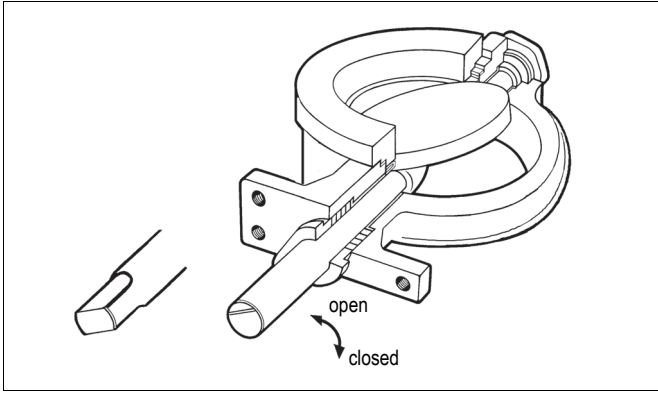

Fig. 12 Open and closed positions of the valve
- Check the adjustment in the closed position (see Section 6.4). The marking line parallel to the disc on the valve shaft head shows roughly the closed position of the disc (see Fig. 12).
- Centre the seat ring (4) carefully into its groove and turn the disc to maintain light contact with the seat.
- Mount the clamp ring and tighten the screws (27) lightly.
- Tighten the screws (27) evenly. An unevenly tightened flange may damage the seat ring. The screw heads must be below the flange surface in lug type valves.
- Check the position between the seat ring and the disc. The valve closes clockwise (see Fig. 12).
- Press the shafts into the disc drillings. Align the pin holes. The shaft (11) position against the disc must be according to Fig. 12.
- Install the body seal (19) and the clamp ring (2). See details in Section 5.4.
- Check the contact line between the seat ring and the disc (see Fig. 12).